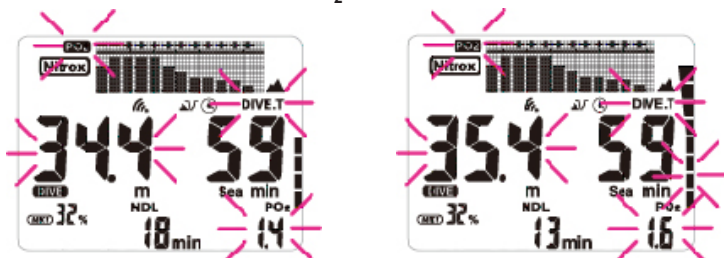

Figure 29
- **PO₂ warning:** The PO₂ warning has two levels. (Fig. 29)